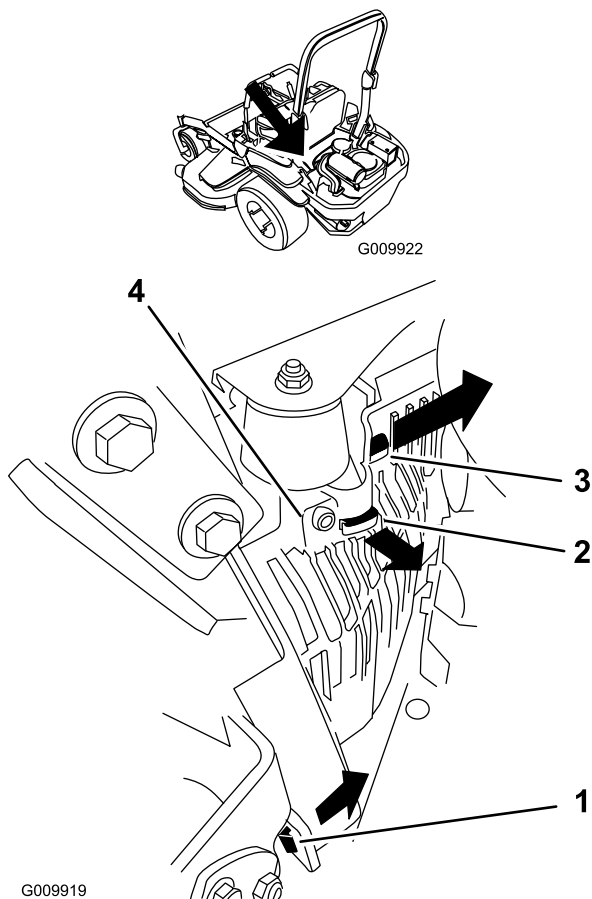

Figure 50
3. Remove the lefthand hydraulic unit shroud in the order listed with Figure 50. This gives you access to the front spark plug.
5. Install the lefthand hydraulic unit shroud (Figure 50).